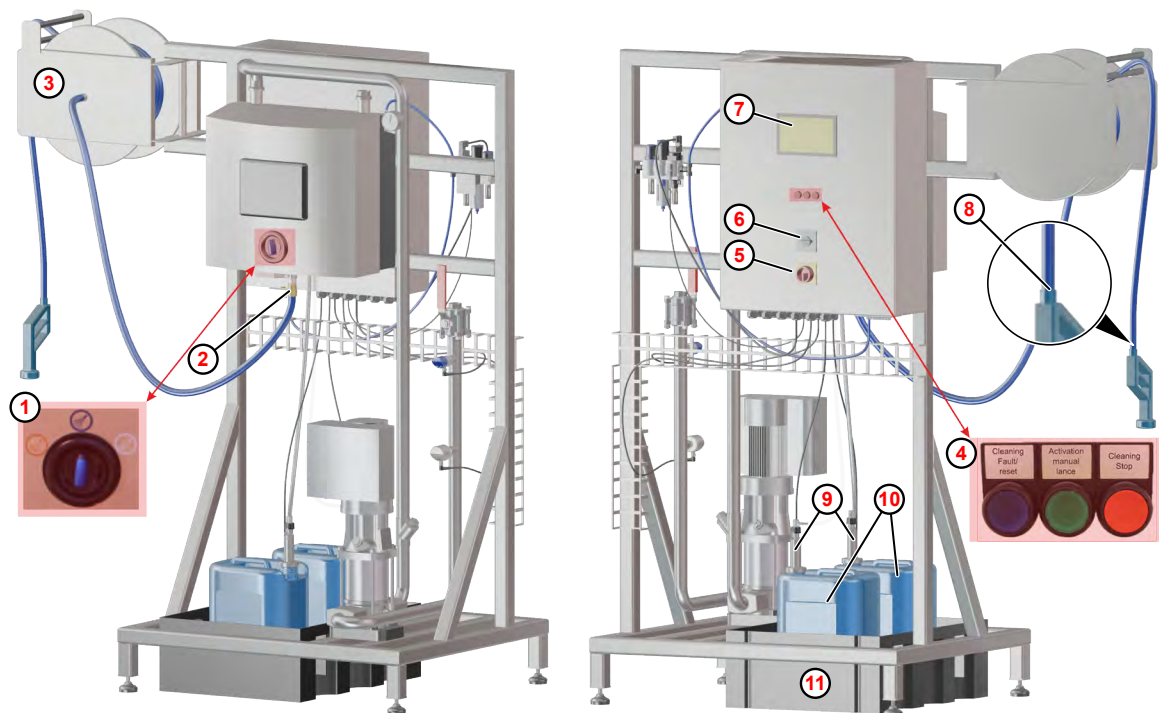

Fig. 122: BFH Foamatic with hose reel
2. On the control panel, go to Fig. 122 ⑦ the submenu 'Select Program and Zone' and select the cleaning program and zone.